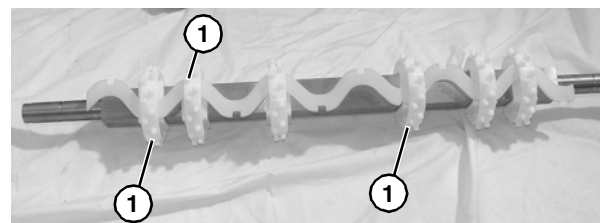

Figure 70
2. Slide the entire assembly onto the drive spindle. Be sure that at least three sprockets (Figure 70, item 1) are positioned such that they are on alternate opposing locations on alignment bar..